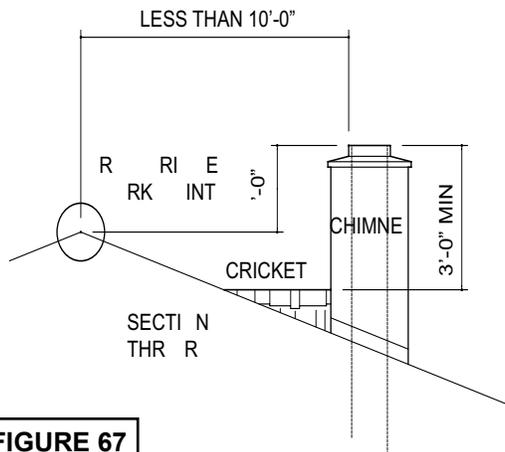

FIGURE 67
- (1) If the horizontal distance from the roof ridge to the opening of the chimney is less than 10’, the top of the chimney must be at least 2’ above the roof ridge. (Figure 67)
- (3) In all cases, the chimney cannot be less than 3’ above the roof at the edge of the chimney. (Figure 67 & 68)